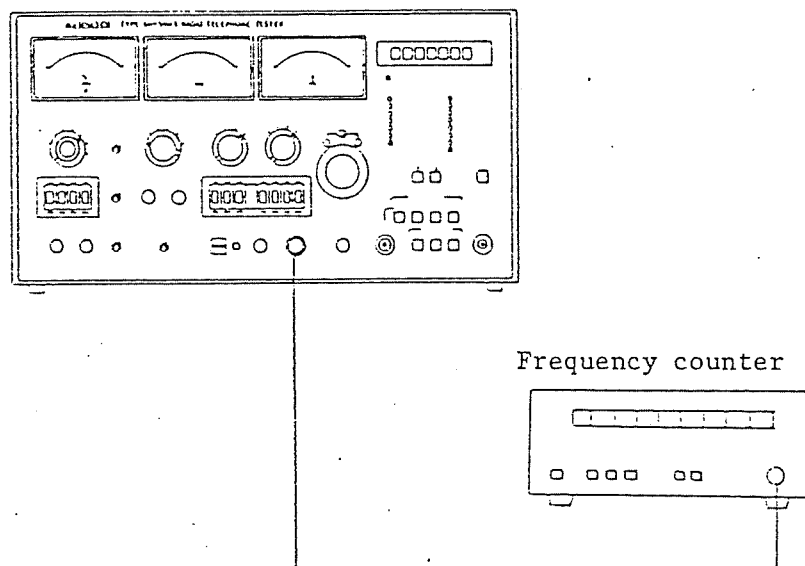

Fig. 3-14 AF signal output frequency test
- (1) Connect a frequency counter to the AF output terminal of the [TO TRANSCEIVER] mike connector of this apparatus as shown in Fig. 3-14.